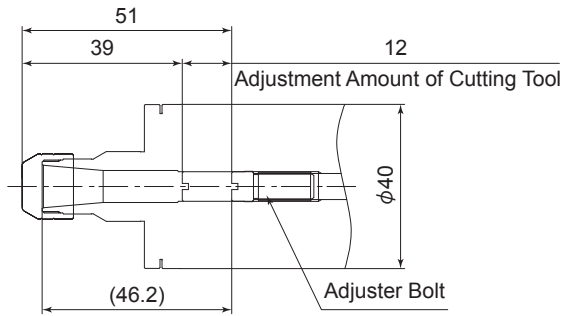

Fig. 30
- Tool Stop Position: 39mm - 51mm from the face of the Collet Nut (Fig. 30).